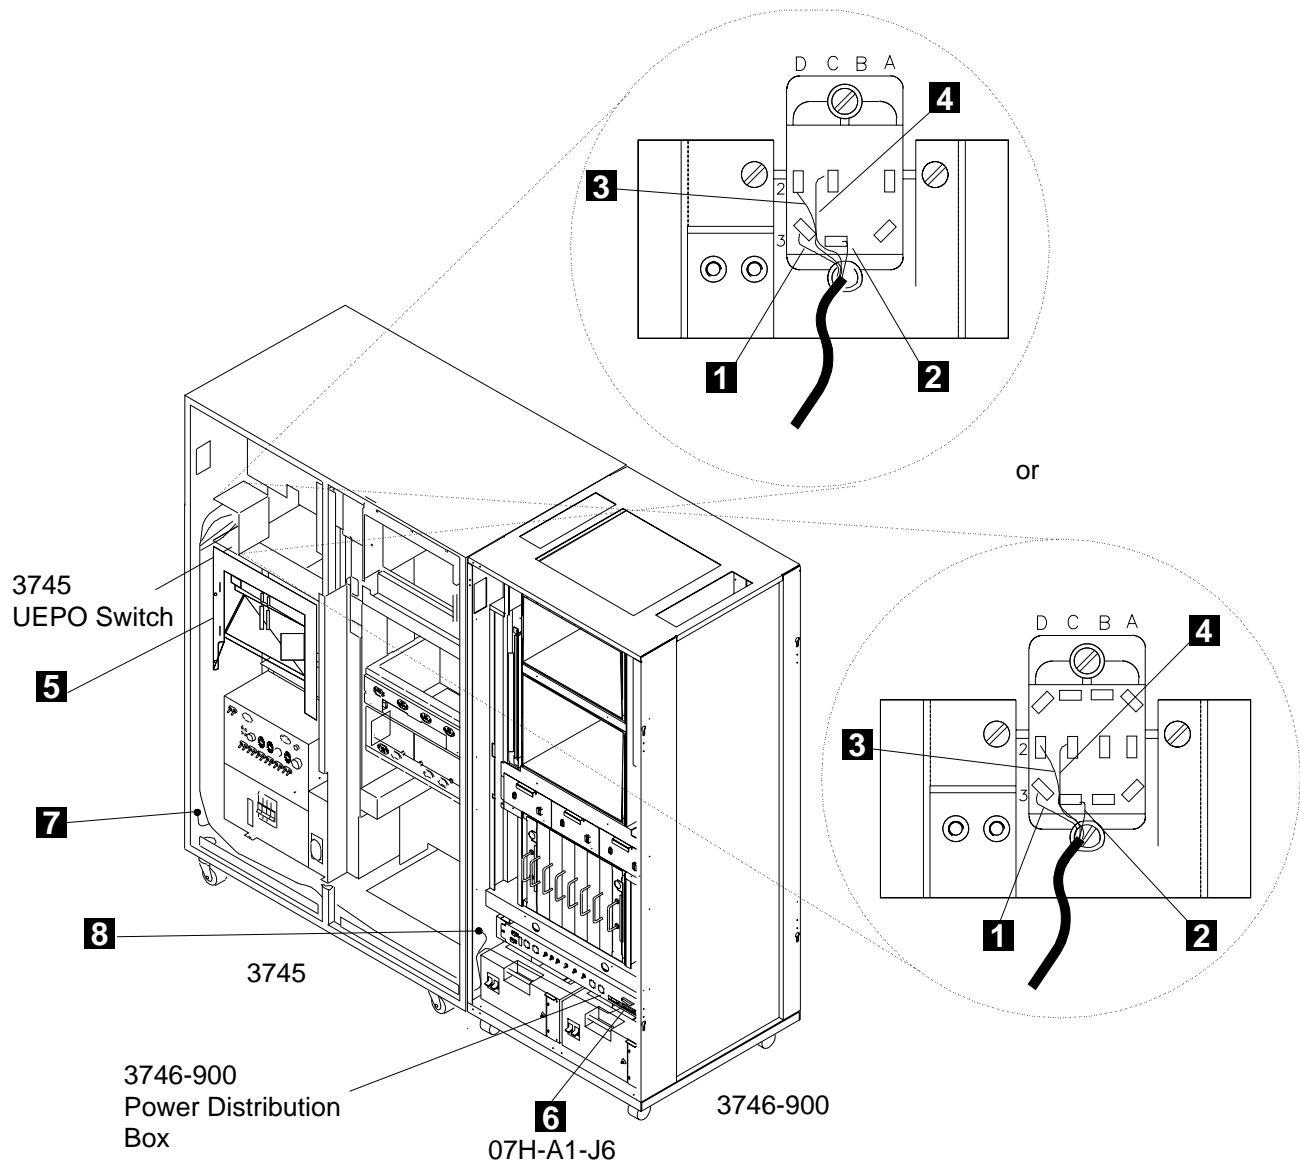

Figure 4-10. 3746-900 UEPO Cable Routing (3746-900 Attached to a 3745-X1A)
- Step 1. ____ Plug the connector **6** of the UEPO cable (PN 76F9341) in location 07H-A1-J6 of the 3746-900 power distribution box. (refer to Figure 4-10 on page 4-12 for location)
- Step 4. ____ Route the cable through the hole at the bottom left side of the 3746-900 (front view), along the bottom of the 3745 base frame, and up to the 3745 control panel (refer to Figure 4-10 on page 4-12).